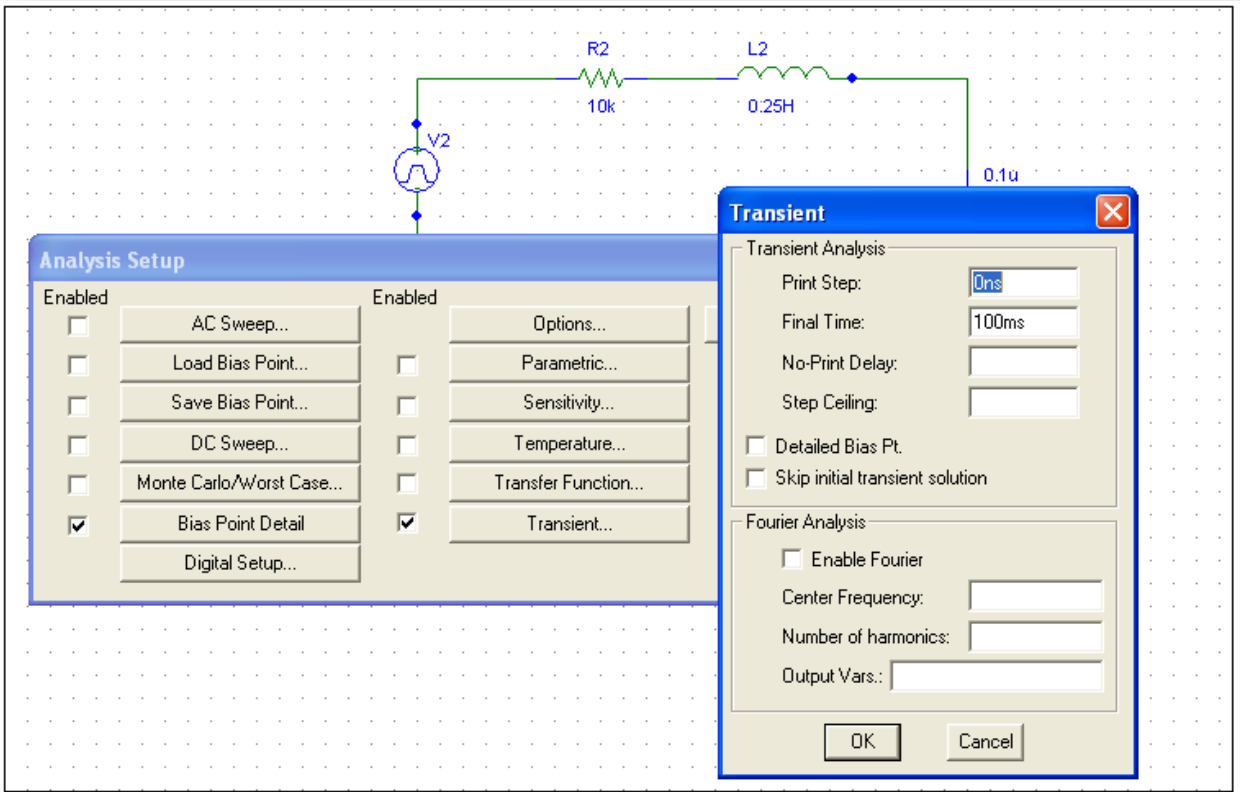

Fig.4.3.2: Setting Transient Analysis Parameters.
- 3- Set the Transient Sweep parameters as shown in Fig.4.3.2.